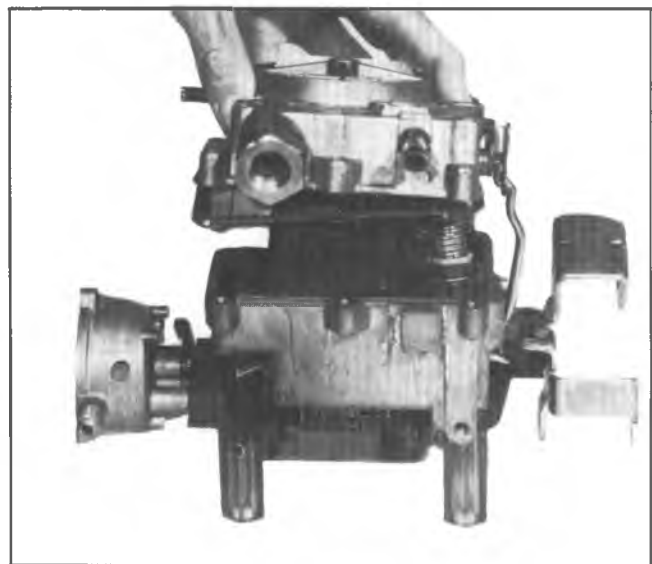

Fig. 3C-Removing Air Horn
7. Remove eight air horn attaching screws and lockwashers, then lift air horn from float bowl (Fig. 3C).